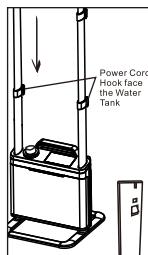

Figure 4
- After done using the Steamer, the power cord can be wrapped around the Support Pole Hangers for convenient power cord storage.(Figure 4)